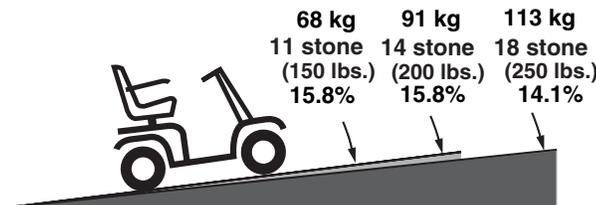

FIGURE 1. MAXIMUM RECOMMENDED INCLINE ANGLE FOR THE SONIC
Other inclines may be natural or, if man-made, not designed specifically for scooters. Figures 1 and 1A illustrate your scooter's stability and its ability to climb grades under various weight loads and under controlled testing conditions.
**WARNING! Any attempt to climb or descend slopes steeper than those shown in figures 1 and 1A may put your scooter in an unstable position and cause it to tip, resulting in personal injury.**